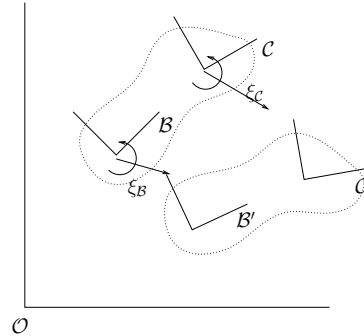

Figure 3: Rigid body vectors setup.
**Problem 3** [10 pts] Continuing with the setup from the previous Problem, let's suppose that frame  $\mathcal{B}$  and frame  $\mathcal{C}$  were actually attached to the same rigid body and that you watched the body move from its original configuration to some new configuration ( $\mathcal{B}'$  and  $\mathcal{C}'$ ). As the rigid body was moving, you measured that the body velocity of the frame  $\mathcal{B}$  was  $\xi_B^b = (2, -3, \pi/9)^T$ . What is the body velocity associated to the frame  $\mathcal{C}$ , i.e., what is  $\xi_C^b$ ? The setup is depicted in Figure 3.